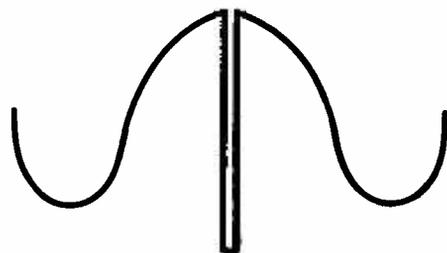

Figure 5-11. Frame Pulse
6. Adjust R67 to position the frame pulse in the center of the positive half-cycle of the sine wave, as shown in Figure 5-11.